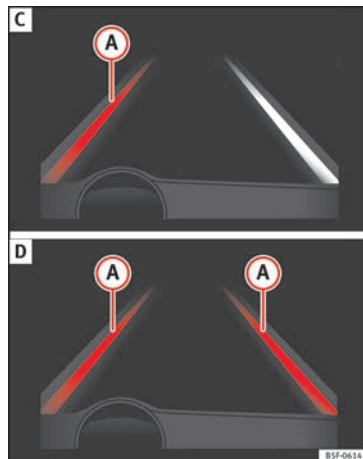

Fig. 213 On the instrument panel display: Indication on the Lane Assist system display (example 2).
- The system is operational, the highlighted line A indicates that there was a risk of involuntarily crossing the lane line and that the steering is being adjusted to correct the angle »» Fig. 213 C.
- The two lines A light up simultaneously when both lane lines are recognised and the Lane Assist function is active »» Fig. 213 D.